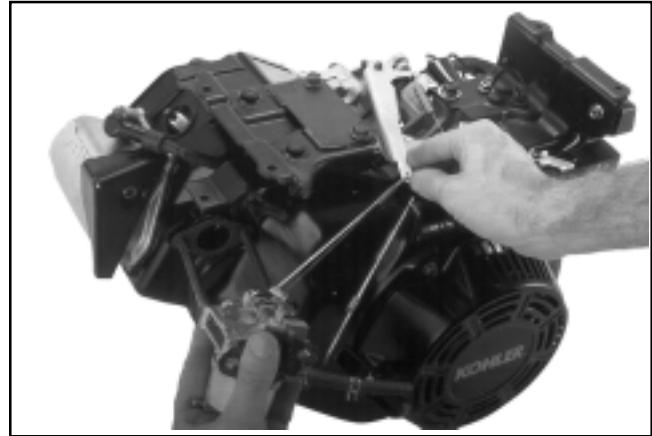

Figure 9-17. Removing Carburetor Without Governor Lever Removal.
2. Pull the carburetor outward and off the mounting studs. Tilt the carburetor and disconnect the throttle link and dampening spring from the throttle lever. See Figure 9-17.